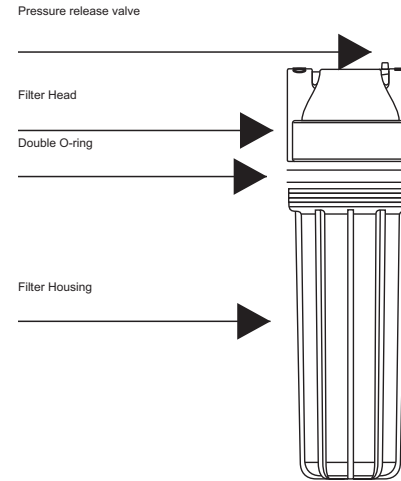

Fig.1 Accessories for
- Unscrew filter head from the filter housing (Fig. 1) using a wrench. To prevent damage, hold the